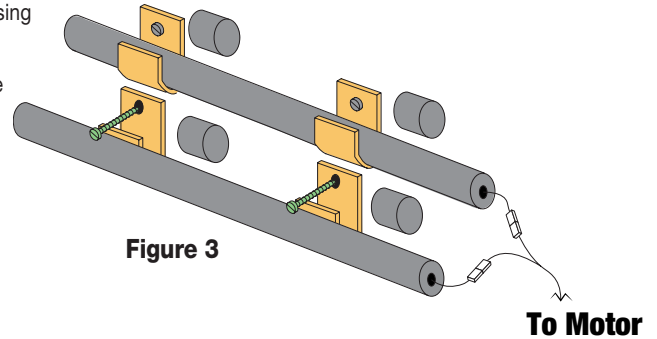

Figure 3
1. Mount Battery Wands to wall using provided Mounting Clips (Fig. 3). Locate the battery wands where they can reach the motor without interfering with shade/roller operation.